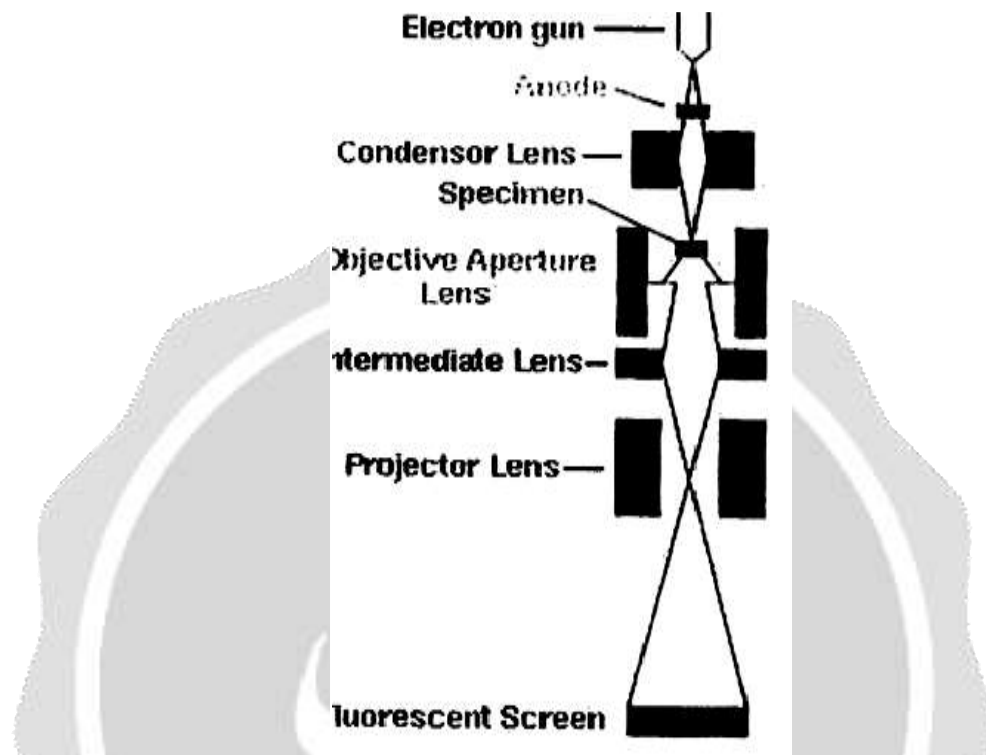

Figure 1: Electrons are generated+
In Figure 1, electrons are generated from the electron gun, having 100 KeV energy. Main part of the TEM, (1) condenser lens (2) objective lens (3) projector. The condenser lenses are responsible for primary beam function, while the objective lens focus the beam down on to the sample. Again a fine beam of the image can be made with the help of the projector lens. A projector lens expands the image and incident on the fluorescent lens and it is connected with The CCD. (Camera) [3].